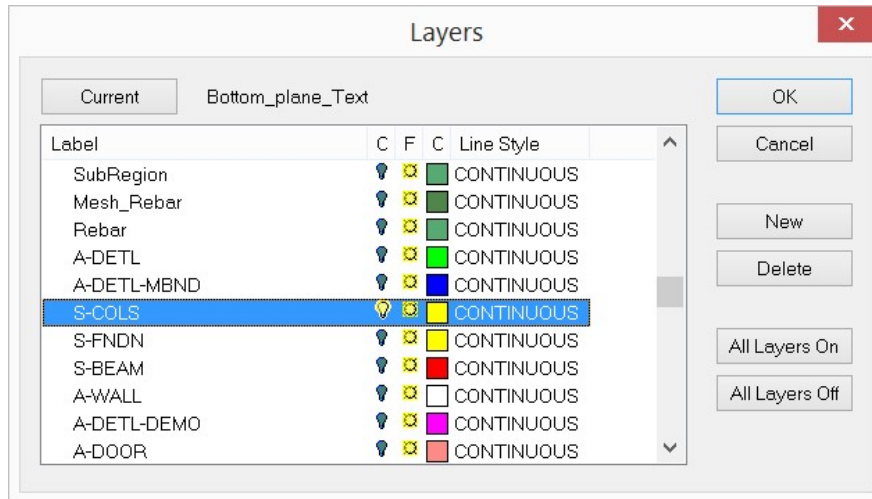

FIGURE 6.4-4 LAYERS DIALOG BOX
- Use ribbon item **Home | Display | Layer Settings**, to open the **Layers** dialog box. Click on the button **All Layers Off**. This will turn off all the layers in the drawing. Click on the light bulb icon in the **On/Off** column for the layer representing the structural columns (**Figure 6-4-4**) to turn on only the objects in this layer while the display of other objects remain turned off.
- Select the menu item **Home | Display | Layer Settings**, to open *Layers* dialog box. Click on the button “**All Layers Off**”. And this time turn **All Layers Off** and turn on that layer representing the structural slab layer (**Figure 6.4-4**) to display only the polygon representing the slab region(s).